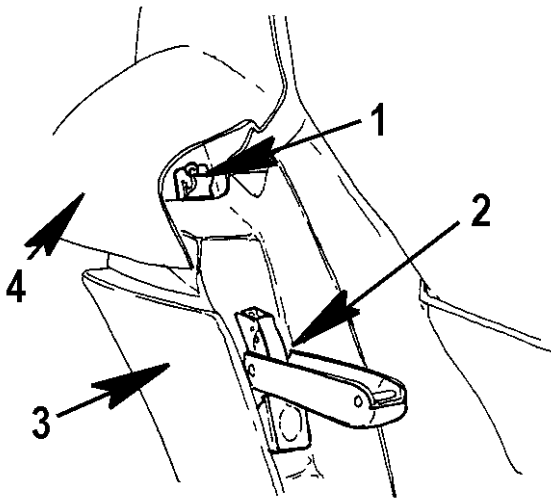

Figure 42 Hood Latching Mechanism (Driver Side Shown)
4. Place the lower latch mechanism (Figure 42, Item 2) on the fender extension, align the mounting holes.